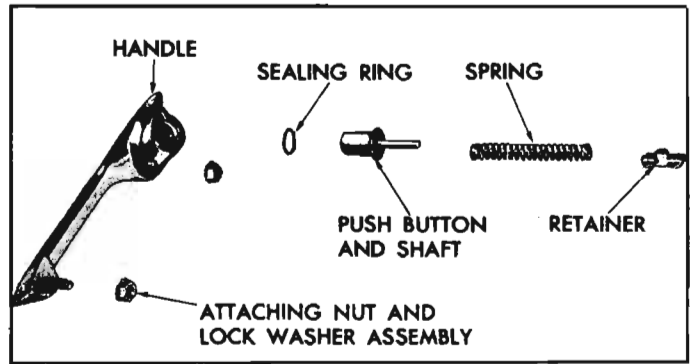

Fig. 10-69—Rear Door Outside Handle Disassembled
2. Depress retainer slightly and turn retainer one-quarter turn. Remove retainer, spring, push button and shaft and sealing ring from handle (fig. 10-69).